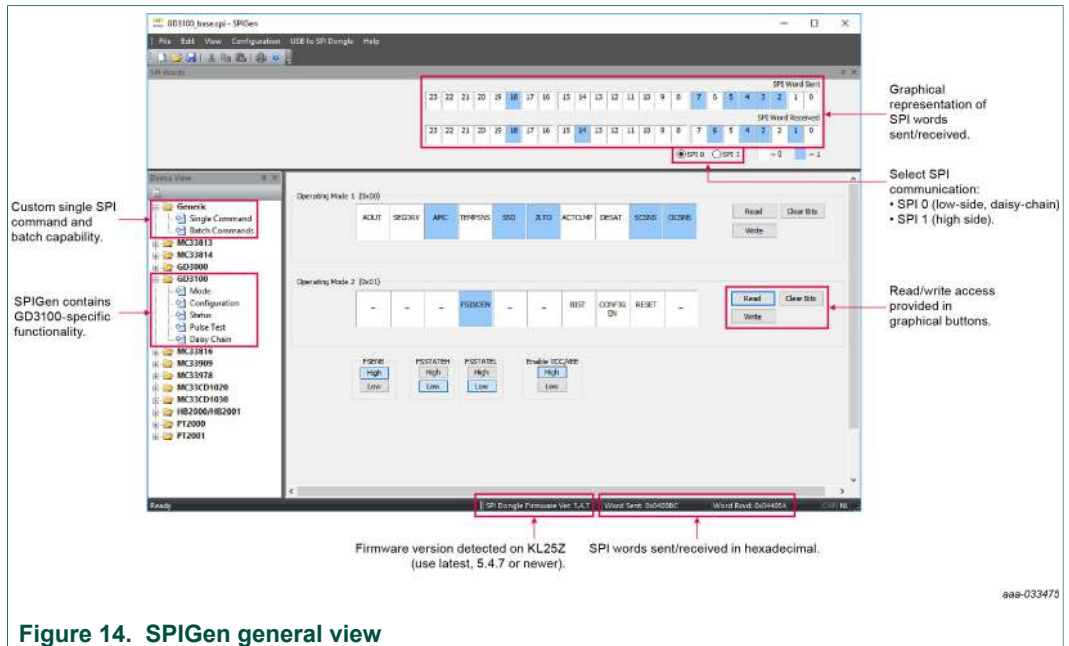

Figure 14. SPIGen general view
- a. Selecting SPI0 communicates with low-side gate drive device and SPI1 communicates with high-side gate drive device (see Figure 14).
A way to quickly check that the microcode is programmed and board is functioning properly, is to plug the KL25Z into the computer, open SPIGen, and verify the software version at the bottom is 5.4.7 software (see Figure 14).
SPI messages can be realized graphically or in hexadecimal format, and the CSB is selectable to address one or both GD3100 present on the board. See Figure 14 for SPIGen graphical user interface for GD3100 internal register read and write access.
|                                   | Check correct firmware is in use for translator board version | Firmware includes pin definitions and pinout for KL25Z corresponding to routing and pin allocation on specific translator board revision | Check firmware version in SPIGen, according to <a href="#">Figure 14</a> . Match this to microcode needed for translator board revision, stated in <a href="#">Section 6.2</a> , step 6.  |